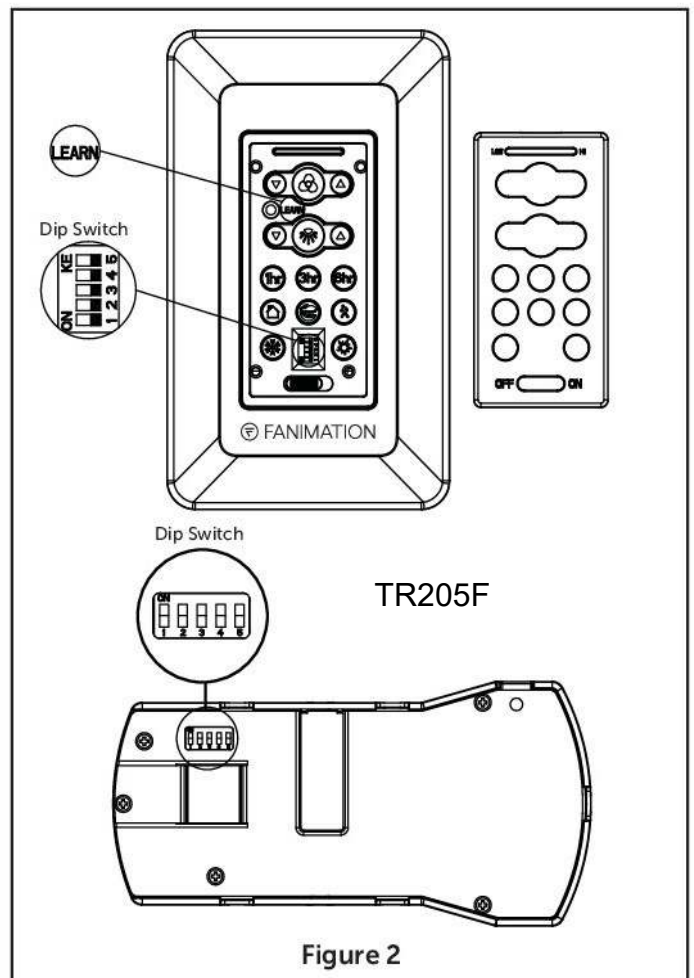

Figure 2
1. Dip Switch Set Up (Figure 2)